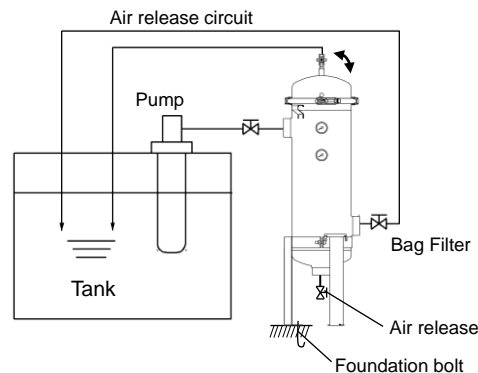

Fig. 4-1 Example of the circulating filter circuit
- Use a circuit which does not have large fluctuation of the pressure and flow to the filter. (Figure 4-1)